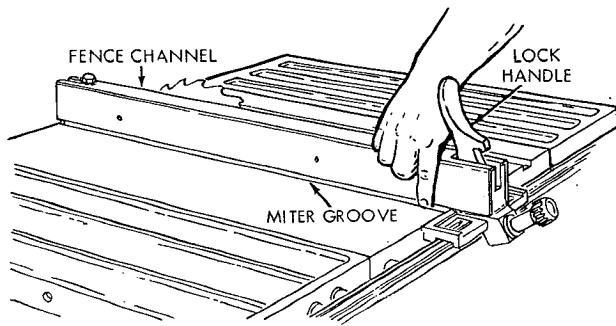
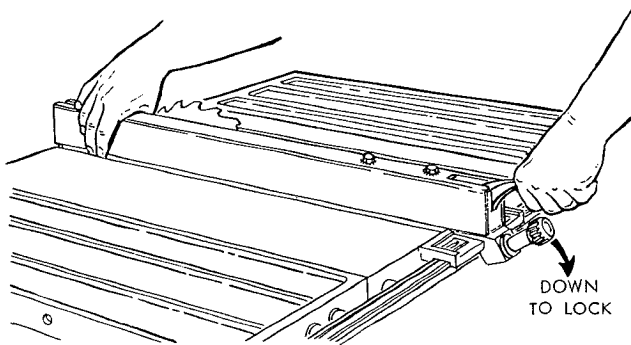
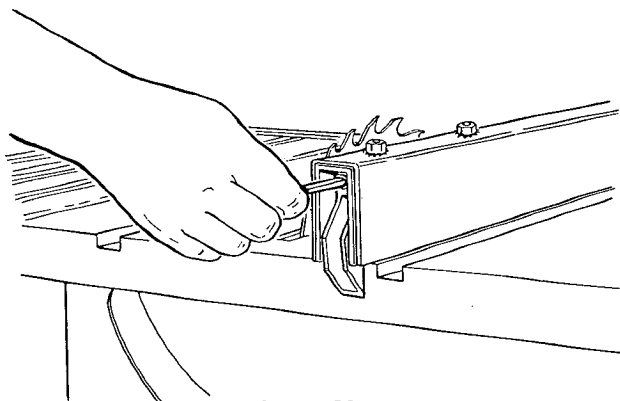
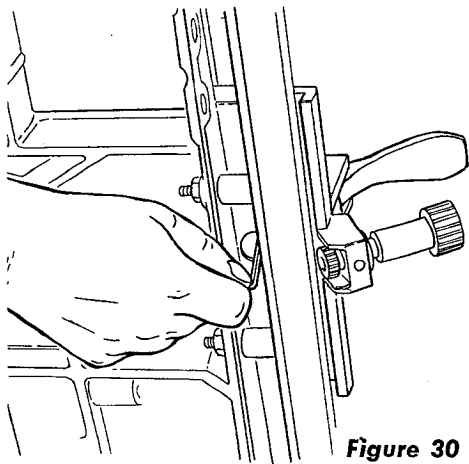

Figure 26
Figure 27
Figure 29
Figure 30
- (1) With the lock handle not latched, slide the fence on the saw table so the front edge of the channel is flush with the side of one of the two miter grooves. (See figure 26.) This can be checked by using your fingers as shown to “feel” for correct alignment. Shift the rear of the fence to the right or left slightly, causing fence not to be square with the front edge of the table nor parallel to the miter groove.
- (2) Push down on the lock handle carefully (do not force) while watching the rear of the fence for its correcting action.
- (3) The lock handle should lock in the down position. Do not force the handle, as it is not necessary for the handle to be all the way down to lock the fence. (See figure 27.) The rear of the fence should move to correct itself, and do so parallel (flush) with the miter groove in saw table throughout its full length. Alignment may be checked with the forefingers to determine if the fence is flush with the side of miter groove, as shown in figures 26 and 27.
- (4) If the lock handle responded as described above, and the fence aligned itself with the table groove at both ends, the fence is properly adjusted and no further attention is necessary. If not, perform the following adjustment routine.
- (2) Using a 5/32 inch hex-"L" wrench, loosen the set screw at the rear of the fence approximately two turns. (See figure 29.) This screw is located in the fence lock just inside the channel as shown.
- (3) Place the fence back on saw table and notice that the lock handle offers no resistance at any position.
- (4) Push the lock handle down in "locked" position and, using a 1/8 inch hex-"L" wrench inserted into the fence pawl set screw from underneath the saw table, tighten the set screw finger tight. (See figure 30.) Do not use wrench or pliers — finger tight only.
- (5) Raise the lock handle, push the fence to one side (off square) at the rear. Then lock the fence with the lock handle, while watching to make sure it "corrects" itself. Repeat this operation two or more times. The fence should "correct" itself each time it is locked.
- (6) Raise the lock handle and align the fence with the miter groove (at the front end of the groove) as shown in figure 26. Push the lock handle down.